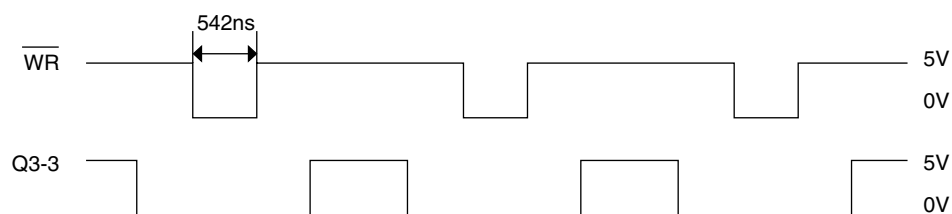

Figure B-3-5
• Yes Are, \overline{WR} , and BUS signals of Q3 pin 3 as specified in Figure B-3-5?
• Yes Is 4 pin of Q6 identical to \overline{WR} signal in Figure B-3-5?